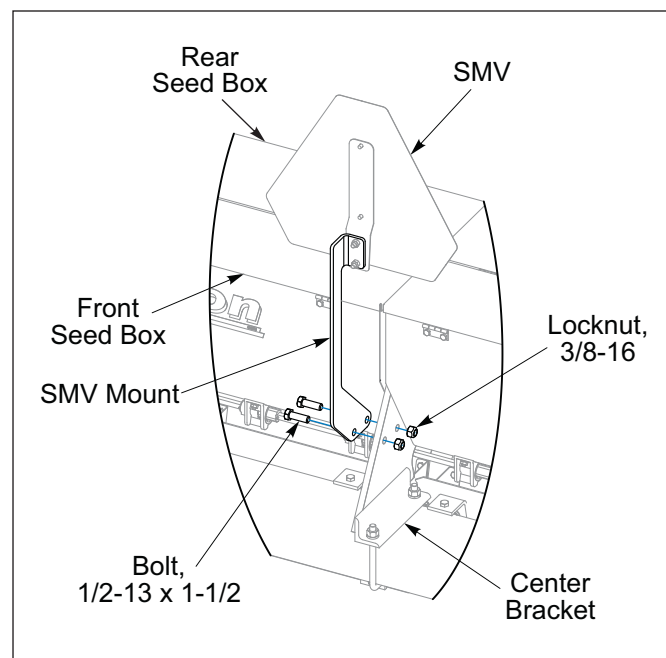

Figure 2-9: SMV Mount (Before 08/2025)
5. **8FT and 10FT Seeders**, install SMV Mount to Seed Box Center Bracket with 1/2-13 x 1-1/2 Bolts and Locknuts. **See Figure 2-9.**